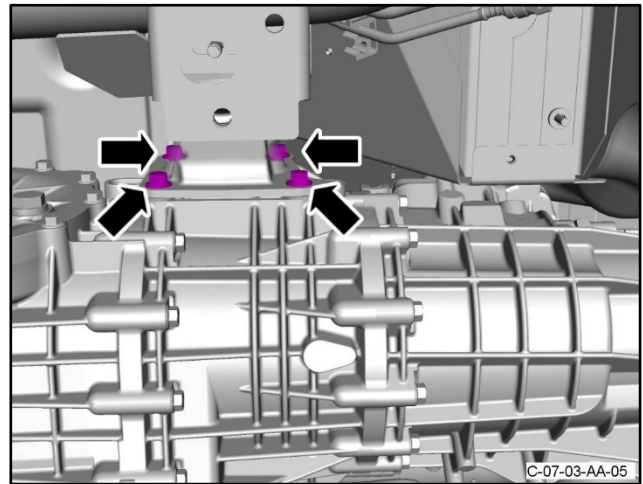

Figure 20
31. Remove and discard the four bolts that attach the right-side transaxle mount bracket to the transaxle. Remove the mount bracket with the hydramount attached (refer to Figure 20).